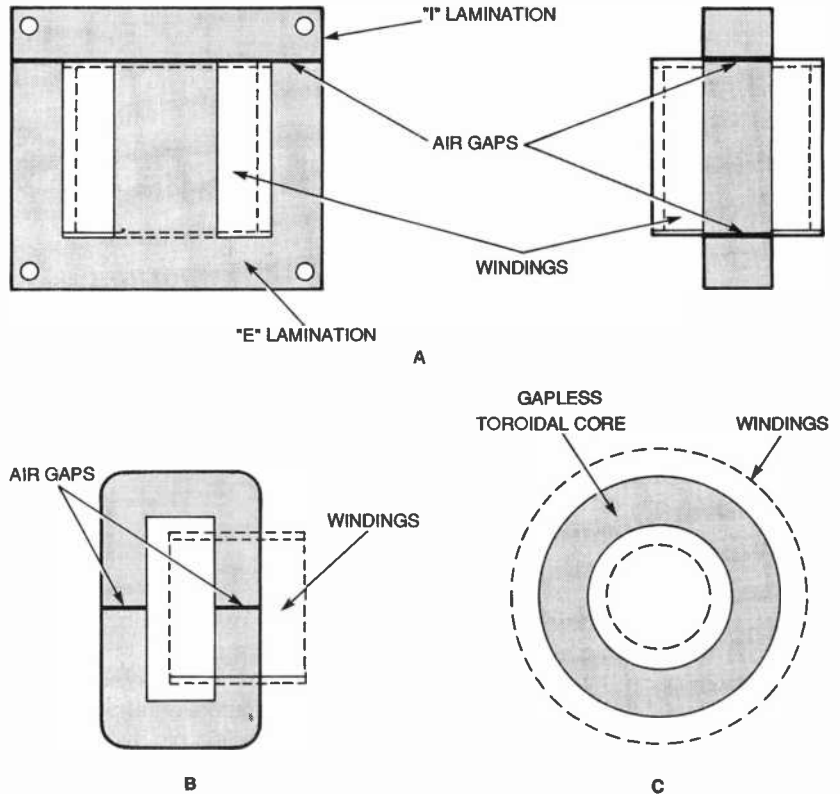

Fig. 3. Three common types of transformer cores. The E-I type is shown in A, the cut-C type in B, and the toroid in C.
**Construction.** Figure 3 illustrates the three common types of transformer cores. Unlike conventional transformers, which use stacked E-I (Fig. 3A) or cut C-core (Fig. 3B) laminations, the toroidal transformer in Fig. 3C uses a tape-wound core with essentially no air gap. The stacked-lamination types are generally cheaper to manufacture because the windings are easily wound on separate bobbins or coil forms. Toroidal transformers require special winding equipment that first winds the wire on a circular shuttle inserted through the core center, then "unwinds" the wire from the shuttle onto the core. A tensioned slider on the circumference of the shuttle controls the wire feed, while rollers rotate the core to evenly distribute the winding.